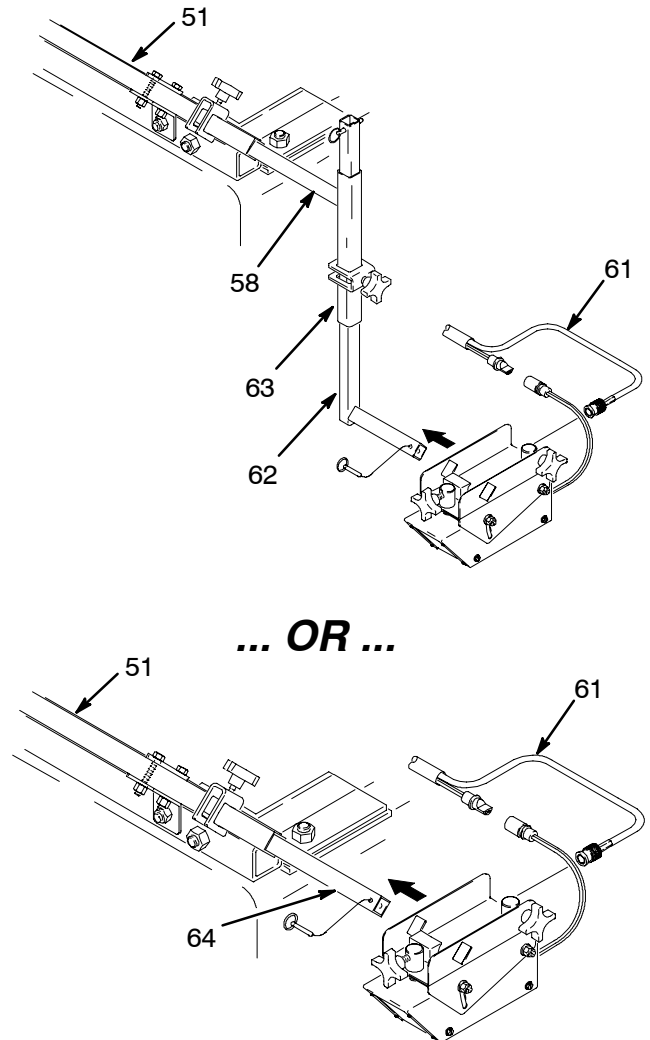

Fig. 2
3. Install adjustable-height camera extension arm (58) with vertical support bracket (63) and support arm (62), **OR** install straight camera extension arm (64). See Fig. 2.
2. Connect plugs (A) of camera power cable (61) to camera (see also Fig. 2). Connect RCA jack (B) to video plug (C) of monitor video cable (111a). Connect power plug or a dual accessory adaptor (D) (not supplied) to truck receptacle.
3. Connect monitor cable plug (E) to monitor power/video cable (111a).